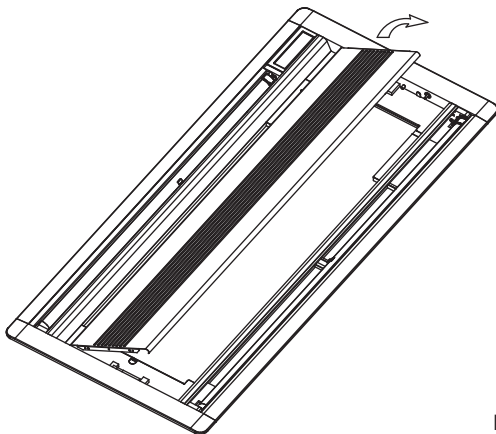

Fig.5-13
- The inlet side should face up when using vacuum cleaner. (Refer to Fig.5-13)